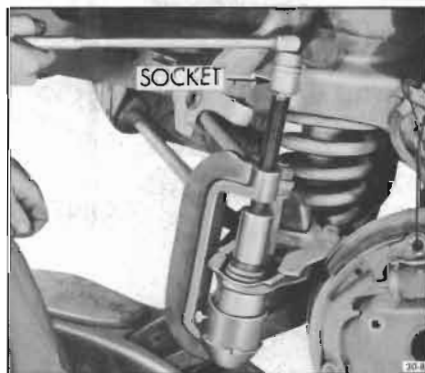

Figure 30-8—Removing Lower Ball Joint
7. Tighten Detail J-9519-8 with a socket and handle as shown in Figure 30-8 until ball joint is forced out of the lower control arm.